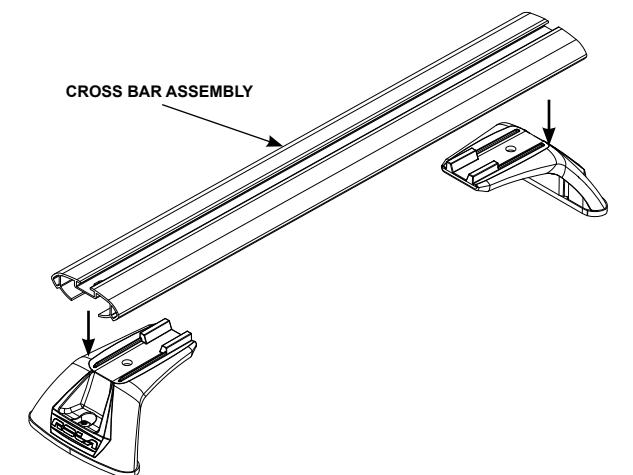

FIG 5
- Place the Cross Bar onto the End Supports ensuring that the End Supports are located into the cutouts on the underside of the Cross Bar. Check that the Cross Bar is over hanging equally on either side (Fig. 5).